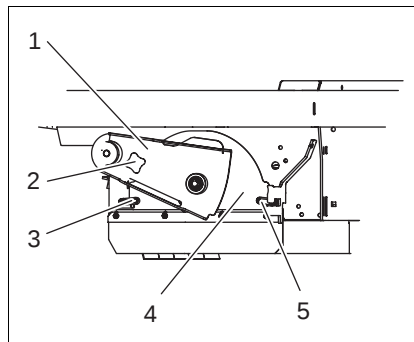

Fig. 13 Dismount Cylinder broom
- Loosen star knob (Fig. 13/2) and remove
- Remove cylinder broom seating (Fig. 13/1)
- Turn handle (Fig. 13/3 + 5) upwards and unlock
- Remove plate with sealing strip (Fig. 13/4)